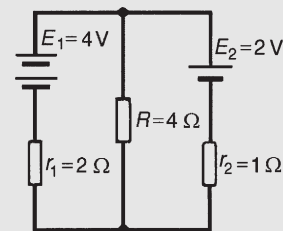

Figure 13.4
**Problem 2.** Use Kirchhoff's laws to determine the currents flowing in each branch of the network shown in Fig. 13.4.